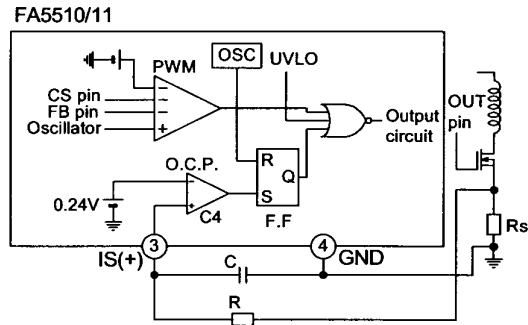
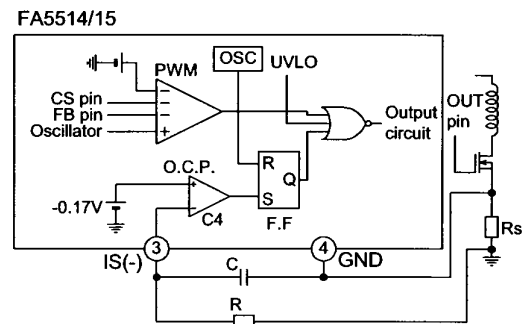

Fig. 13 Overcurrent limiting circuit (FA5510/11)
Fig. 14 Overcurrent limiting circuit (FA5514/15)
The overcurrent limiting circuit detects the peak value of every drain current pulse (pulse by pulse method) of the main switching MOSFET to limit the overcurrent. The detection threshold voltage is +0.24V for FA5510/11 or -0.17V for FA5514/15 with respect to the ground as shown in Figure 13 and Figure 14. The drain current of the MOSFET is converted to voltage by resistor Rs and fed to the IS pin of the IC. If the voltage exceeds the reference voltage +0.24V (FA5510/11) or -0.17V (FA5514/15) of comparator C4, comparator C4 works to set flip-flop output Q to high. The output is immediately turned off to shut off the current. Flip-flop output Q is reset on the next cycle to turn on the output again. This operation is repeated to limit the overcurrent.
If the overcurrent limiting circuit malfunctions due to noise, place an RC filter between the IS pin and MOSFET as shown in Figure 13 and Figure 14. (See item 12 in "Design advice.") Figure 15 is a timing chart that illustrates overcurrent-limiting operations.